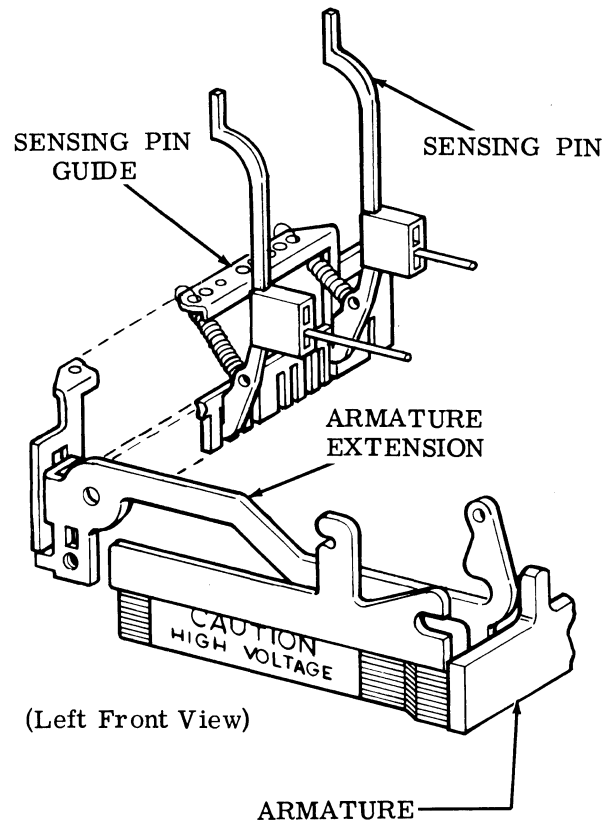

Figure 12 - Sensing Pin Guide
3.16 With the feed magnet de-energized the armature extensions drop, withdrawing the sensing pin guide and the sensing pins (Figure 12).